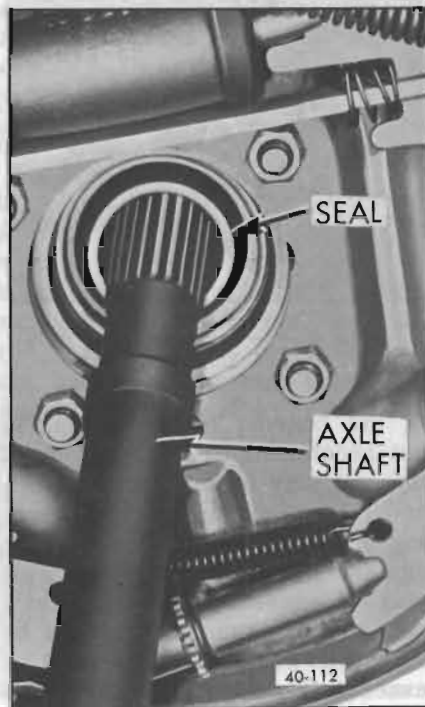

Figure 40-99—Removing Axle Shaft Seal
2. Using axle shaft as a lever push down on shaft until seal is pried from housing. Remover J-8119 or J-6199 can also be used. See Figure 40-99.